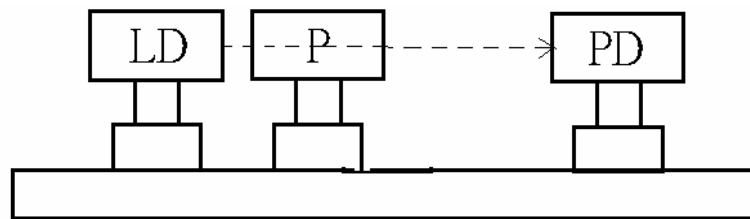

Fig. 7 Alignment of the polarizer (P : polarizer)
4. **To prepare for the part B experiment:** Mount a polarizer on the optical bench close to the laser diode as shown in Fig. 7. Make sure the laser beam passing through the center portion of the polarizer. Adjust the polarizer so that the incident laser beam is perpendicular to the plane of the polarizer. (Hint: You can insert a piece of partially transparent paper as a test screen to check if the incident and reflected light spots coincide with each other.)